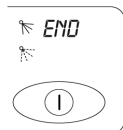

Fig.17
- 6- Wait until is displayed “END” cycle finished, open the door and download clean dishes basket. (Fig.17)